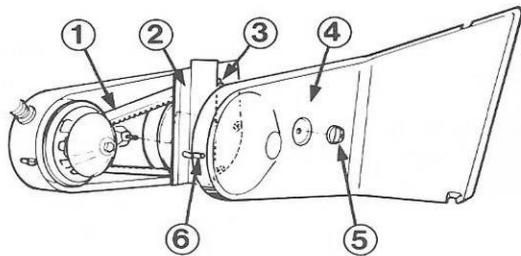

Fig. 58 ① Drive Belt ④ Outer Cover
1. Remove the outer clutch cover (Figure 58).